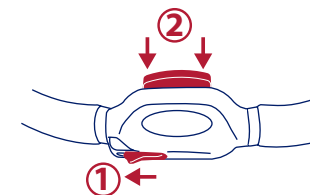

Fig. 24
Flip the carseat support tabs to the outside of the stroller frame before folding. To fold the stroller slide the ① RED fold lock with your thumb while squeezing the large ② RED fold button in the center of the handle and push forward on the handle. (Fig. 24)